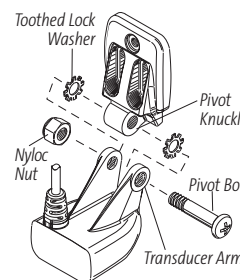
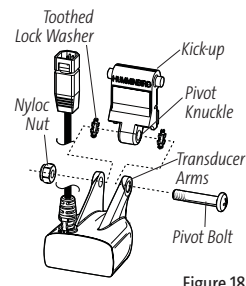

Figure 17
Figure 18
1. Attach the Single Piece mounting bracket (Figure 17) or the Two Piece Kick-up pivot (Figure 18) to the transducer body, using the ¼"- 20 x 1¼" Phillips head pivot bolt, the nyloc nut, and the two toothed lock washers.
2. Using a Phillips screwdriver and a 7/16" wrench, loosely tighten the pivot bolt (Figures 17, 18). Do not completely tighten the assembly at this time, so the pivot angle can be adjusted later.